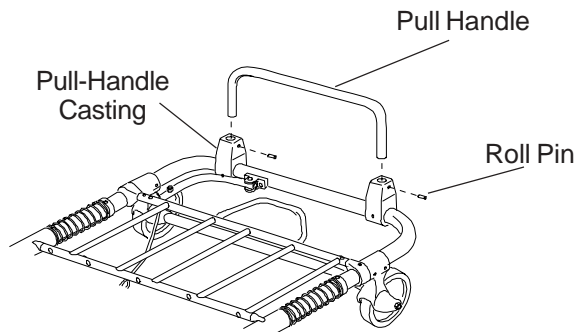

Figure 11 - Attaching Pull Handle
2. Use a hammer to insert the roll pins (supplied) in pre-drilled holes in the pull-handle castings (Figure 11).